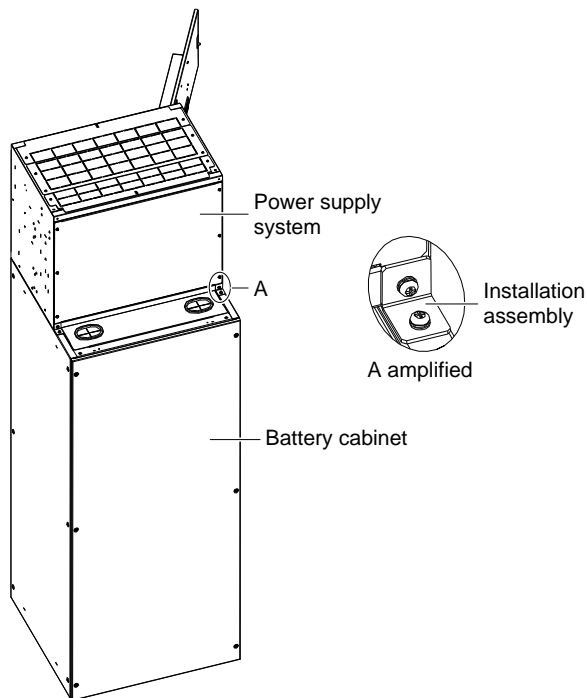

Figure 2-3 Installing the power supply system to the battery cabinet (back view)
1. Use the installation assembly to fix the back side of the power supply system to the battery cabinet, as shown in Figure 2-3.